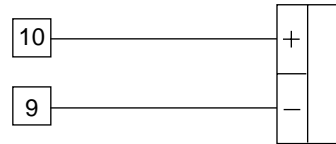

Figure 9. Calibrator Connection
- a) Connect calibrator and instrument as shown in Figure 9.